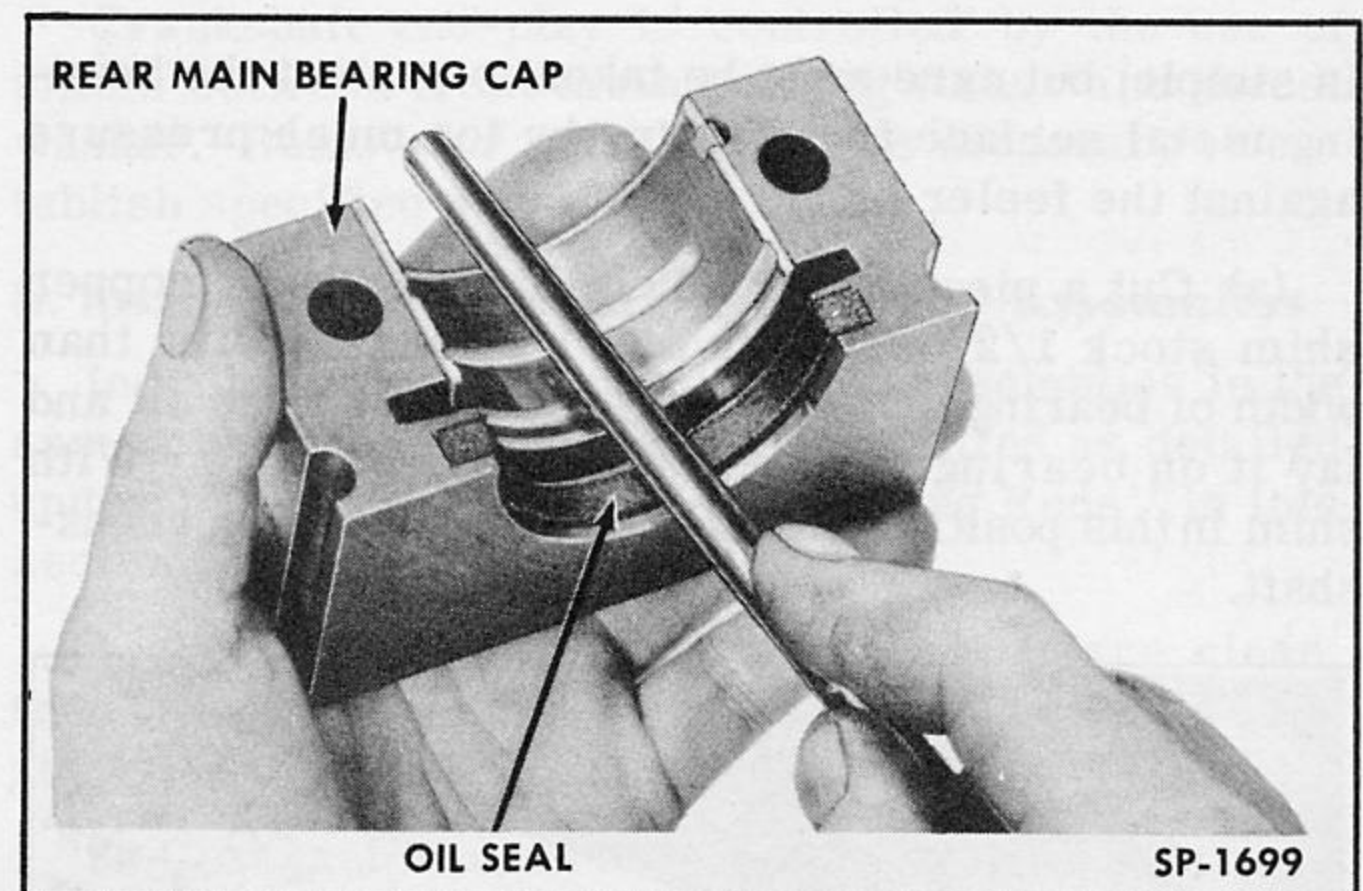

Fig. 54—Installing Rear Main Bearing Oil Seal
1. Press a new rear main bearing oil seal in groove of rear main bearing cap with the fingers. Then seat seal firmly in groove by rolling with a mandrel (Fig. 54). Roll from ends toward center of seal. Cut off each end of seal so they are flush or slightly protruding from flat surface of bearing cap. Install upper half of seal to cylinder block in same manner.